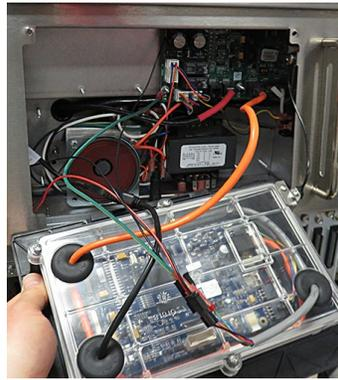

Figure 8
12. Gently lower the controller and hang by the lanyard (see Figure 8).